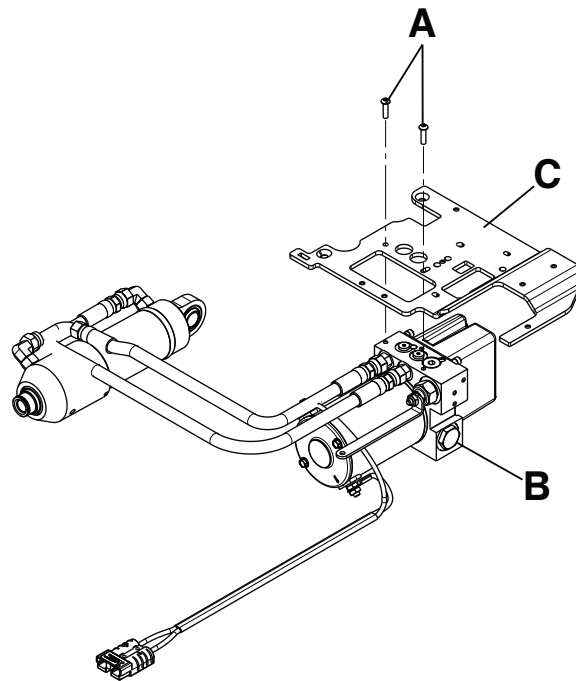

Figure 19 – Hydraulics assembly
6. Using a T25 Torx driver, remove the two screws (A) that secure the hydraulics assembly (B) to the wing plate, left (C) (Figure 19). Save the screws.